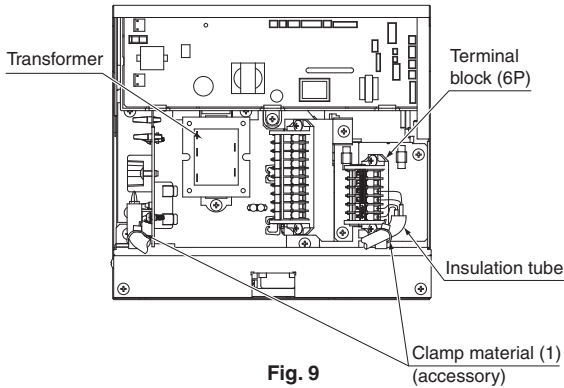

Fig. 9
- Pass the included insulation tube through the hole in the panel before connecting the remote controller wiring and transmission wires to the terminal block (6P) shown in Fig. 9.
- Then secure them in place with the included clamp material (1) as shown in Fig. 9 to protect them from external force from outside the unit.